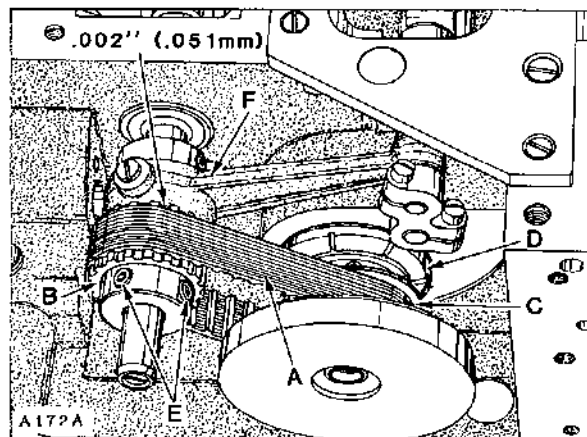
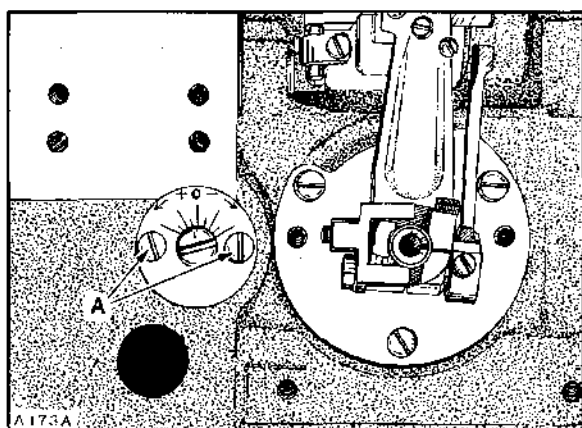

Fig.4
Fig.5
NOTE: End cover has been removed for clarity in Figure 4, but **MUST BE IN POSITION WHILE MAKING THE FOLLOWING ADJUSTMENTS.**
Looper drive belt, (A, Fig. 4) has proper tension if, when turning handwheel in operating direction to position looper in the center of its (right to left) travel.... there is no noticeable (right to left) play in the looper mechanism. There should be approximately 1/8 inch (3.2mm) deflection in looper drive belt when pressing firmly with thumb, midway between sprockets (B and C). Adjustment can be made by loosening two screws (A, Fig. 5) and turn looper module (D, Fig. 4) counterclockwise to tighten belt or clockwise to loosen, as viewed in Figure 4. Retighten screws (A, Fig. 5).
Rotate handwheel in REVERSE direction until pin in looper holder again makes contact with gauge plate and note the reading on the gauge. A variation of (1) graduation on the scale is permissible. If the reading is above "O", loosen screws (E, Fig. 4) and turn rear looper drive sprocket (B) towards the operator (clockwise as viewed in Figure 4). If the reading is below "O", turn sprocket away from operator (counterclockwise as viewed in Figure 4). Temporarily snug screws.
Rotate handwheel in OPERATING direction until pin in looper holder contacts gauge plate and note the reading on scale. If the reading is above "O", loosen screws (E) and turn sprocket (B) away from operator (counterclockwise as viewed in Figure 4). If the reading is below "O", turn sprocket towards the operator (clockwise as viewed in Figure 4). Temporarily snug screws.
Turn handwheel in reverse direction to position looper point even with the left side of RIGHT needle and check the distance from the eye of needle to the bottom of looper blade. If the distance was greater when handwheel was turned in operating direction, (as viewed in Sketch B) loosen screws (E, Fig. 4) and turn rear looper drive sprocket (B) away from operator (counterclockwise as viewed in Figure 4). If the distance was greater when handwheel was turned in reverse direction, (as viewed in Sketch C) turn sprocket towards the operator (clockwise as viewed in Figure 4). Temporarily snug screws.
Before tightening screws (E, fig. 4) securely, be sure to have .002 inch (.051mm) clearance between sprocket (B) and needle guard drive connecting rod (F).